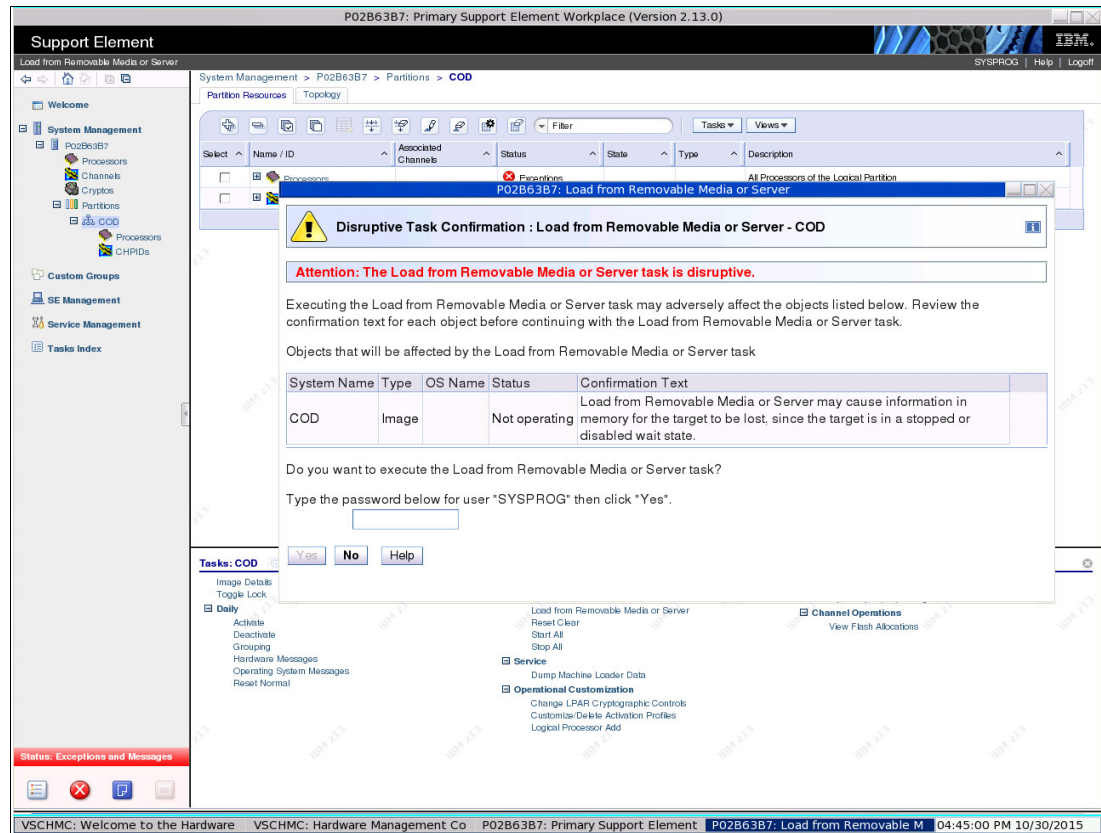

Figure 8-8 Password confirmation
7. We enter our password to proceed with this disruptive task. We click **Yes**, as shown in Figure 8-8. We must ensure that the correct LPAR is used.